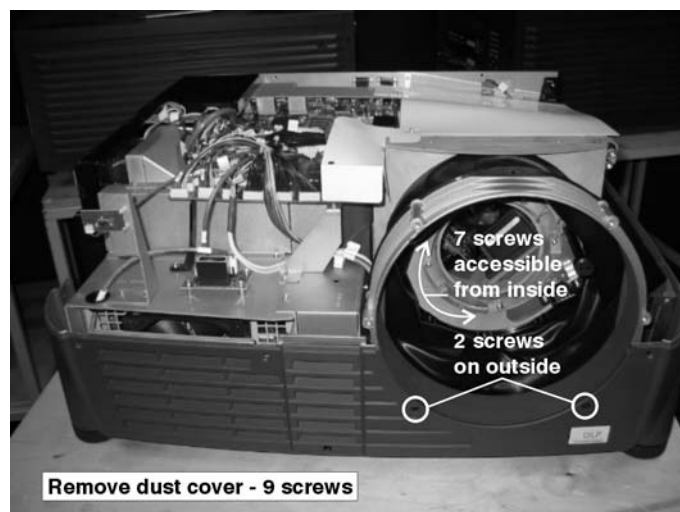

Figure 52. Remove Lens Dust Cover
3. Remove the lens dust cover (also called the lens bezel) by removing nine (9) screws. Seven (7) are located along the inner rim where the cover meets the lens mount and the other two (2) are located on the bottom cover. (Figure 52.)
6. Remove the lens dust cover (also called the lens bezel), by removing seven (7) screws accessible from the inside and the two (2) screws located on the bottom cover. (Figure 52.)